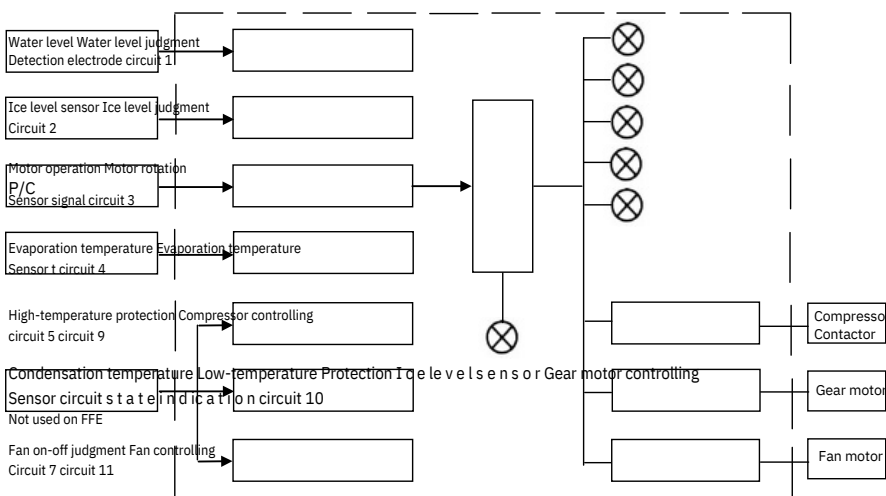

Figure 8
5. P.C. Board Control System (See Figure 8)